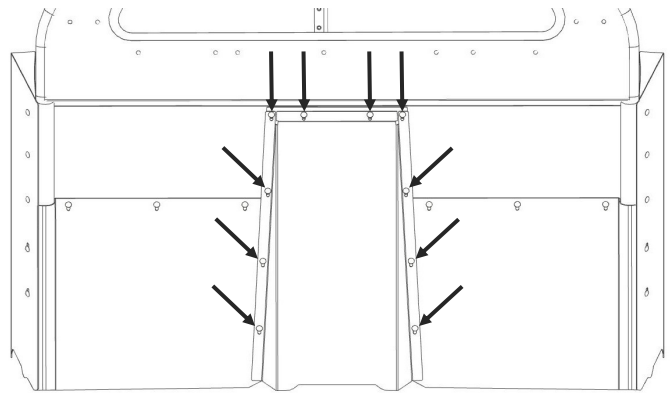

Figure 5
- E. Set the Recess Panel [3RP5419-01] into the vehicle and align all (10) holes with their respective holes in the partition and seat protectors. See Figure 5 above.
- F. Loosely install a carriage bolt [3X36] with whiz nut [3X16Z] into each of the (10) holes identified in the previous step. Reuse the fasteners that were removed from the cover plate in step (A). Install the fasteners such that the smooth head of the carriage bolt is facing the rear of the vehicle.
- G. Adjust the partition forwards or backwards until a desirable fit is achieved between the mounting plates and the partition then tighten the (6) fasteners holding the partition to the mounting plates. These are the fasteners that were loosely installed in section VII, step (C).
- H. Have a second person hold the partition against the headliner of the vehicle while the first person tightens the (6) button head screws [3X149] holding the mounting plates to the b-pillar brackets. These are the fasteners that were loosely installed in section VI, step (B).
- I. Adjust the seat protectors and recess panel to achieve the desired fitment and then tighten all (20) fasteners in those components.